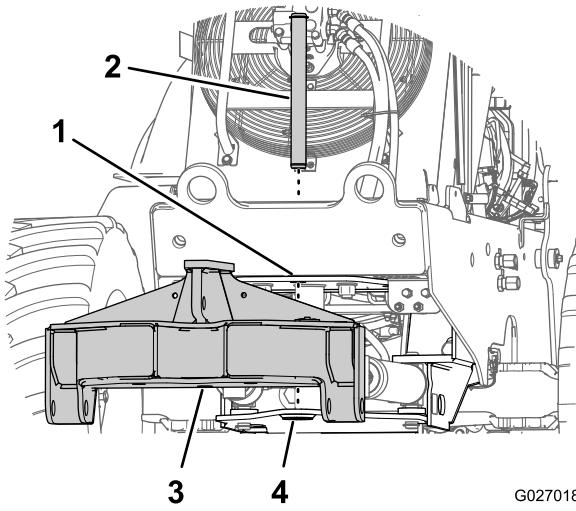

Figure 20
- 4. Align the pivot holes in the pivot frame and mounting frame and insert the pivot pin (1-1/2 x 15-1/2 inch) that you assembled in step 1; refer to Figure 20.
- 3. Align the pivot frame between the upper and lower plates of the mounting frame (Figure 20).